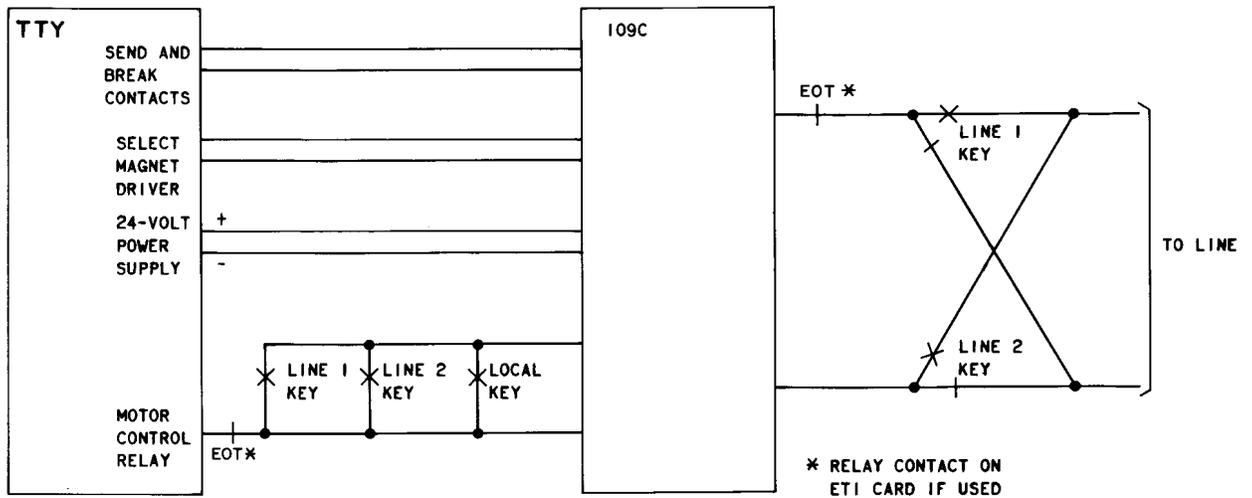

Fig. 5—Data Set 109C-L1 Dual Access Data Line Concentrator Service, Major Switching Functions
4.01 When used for data line concentrator (DATREX) service, Data Set 109C-type is arranged as shown in the simplified block diagram (Fig. 5). Table B lists the key and lamp positions, designations, and functions for this application.